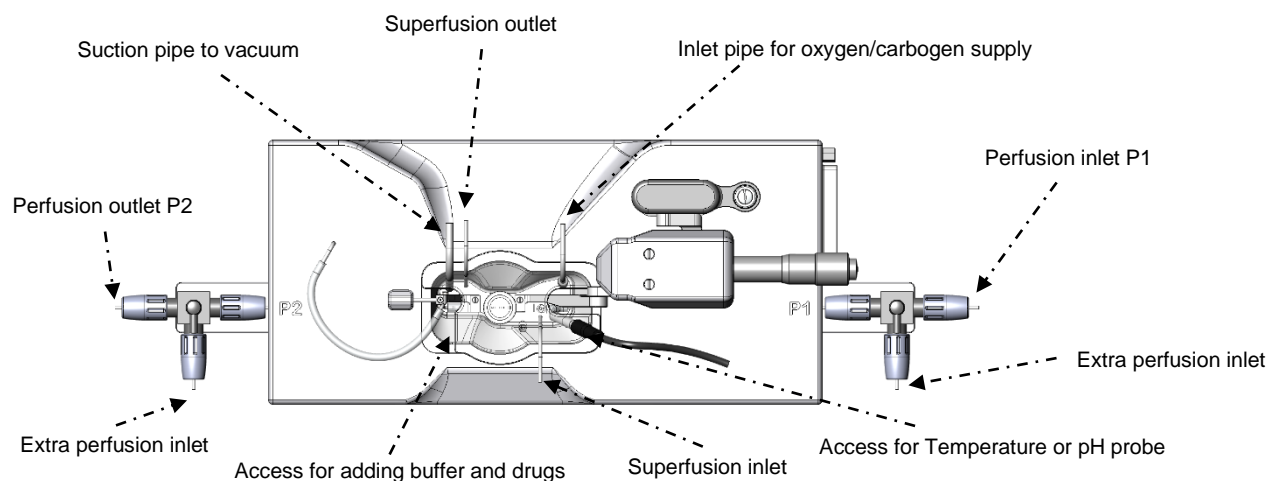

Figure 2.2 External connections for Pressure Myograph 114P
- Connect the “perfusion inlet” at P1 on the Pressure Myograph (see figure 2.2) to the P1 outlet on the cap of the Pressure Interface bottle (see figure 2.3).
- Connect the “perfusion outlet” at P2 on the Pressure Myograph (see figure 2.2) to the P2 inlet on the Pressure Interface (see figure 2.3).